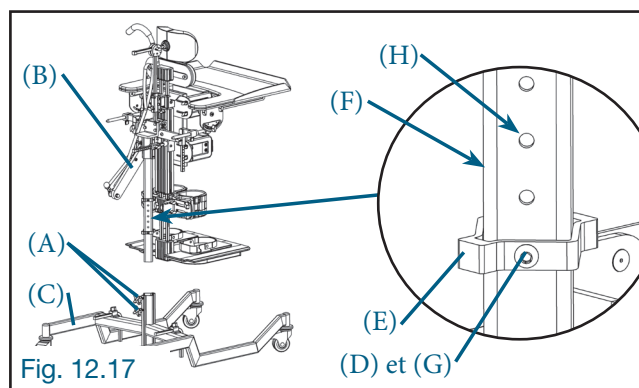

Fig. 12.17
12.17 AJUSTEMENT DE LA HAUTEUR DU CHÂSSIS SUR LA BASE (Fig. 12.17)